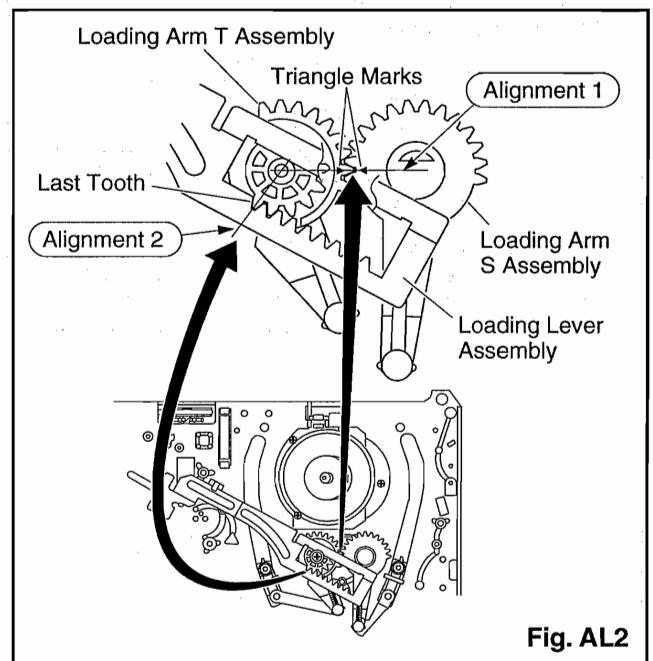

Fig. AL2
1. Install Loading Arm S and T Assembly so that their triangle marks point to each other as shown in Fig. AL2.
1. Keeping the two triangles pointing at each other, install the Loading Arm T Assembly so that the last tooth of the gear meets the most inside teeth of the Loading Lever Assembly. See Fig. AL2.